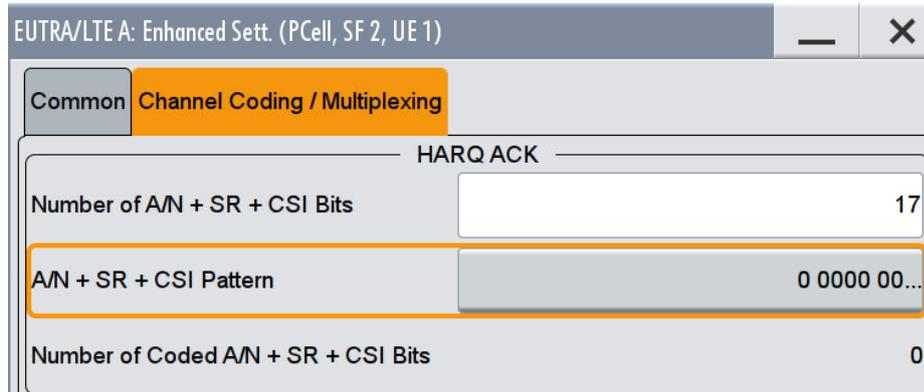

Fig. 3-137: Set 17 bits ACK pattern to '0000 0000 0000 0000' + '0'
9. Set the **Number of Bits** to **17 (16 ACK + 1 SR)** and the **ACK/NACK Pattern** to **'0000 0000 0000 00000'** (Fig. 3-137)